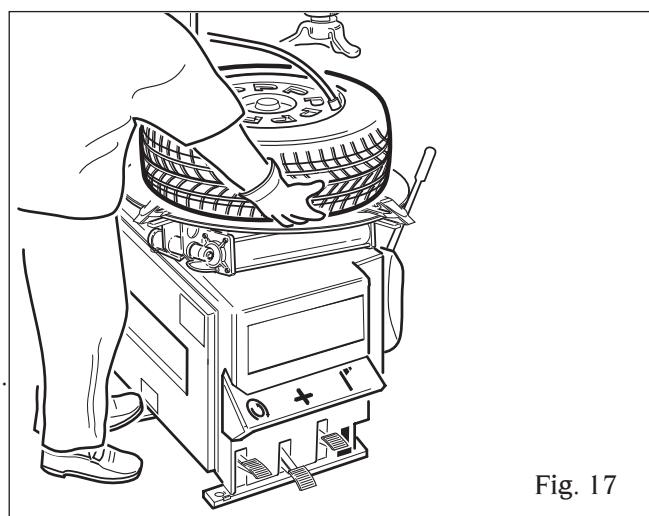

Fig. 17
- Connect the Doyfe chuck (16) on the inflation hose to the valve stem.
- Hold the tire with your hands (Fig.17) and lift it so that you create a small gap between lower bead and bottom edge of the rim and close the gap between the upper bead and top of the rim.